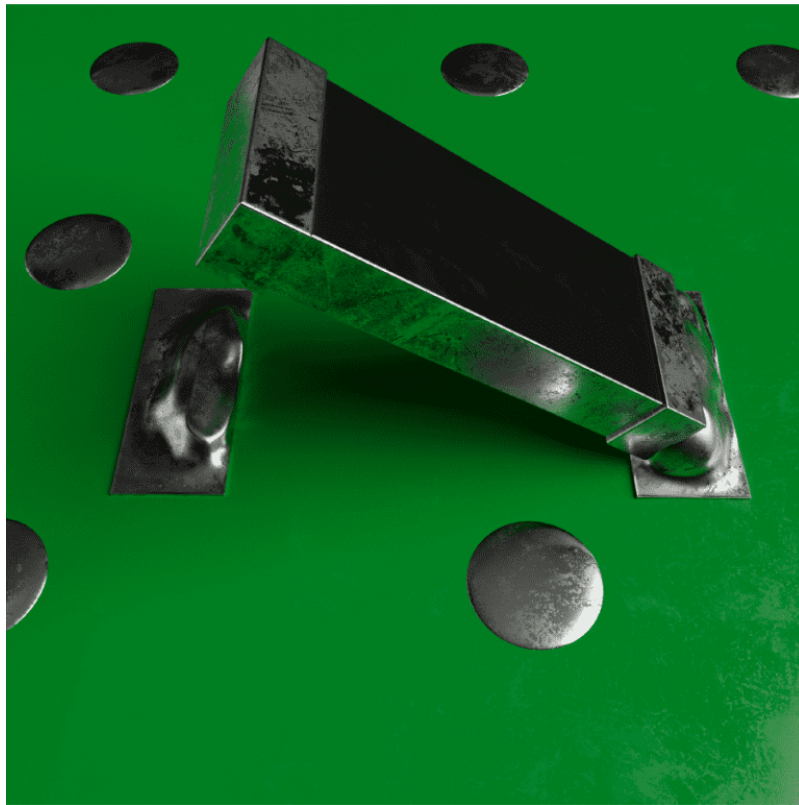

Figure 6. An example of tombstoning. (Source: IPC-A-610)
- Shifting, lifting or tombstoning of SMD components (**Figure 6**). An imbalance of heat dissipation across component leads is the prime cause. As a remedy, add a thermal relief connection across discrete SMD pads to slow the rate of heat dissipation.